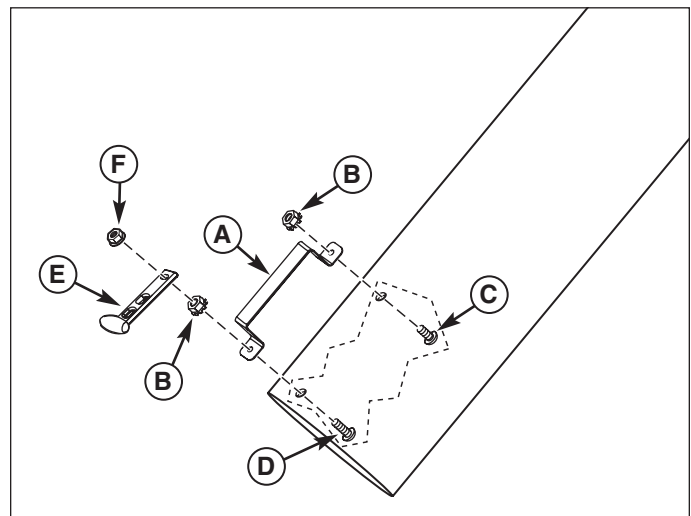

Figure 6. Handle to Tube Installation
1. Install handle (A, Figure 6) using 1/4-20 x 1/2 screw and 1/4-20 locknut (B) for rear hole. Use 1/4-20 x 1 screw (D) as shown. Tighten hardware.
2. Install strap (E) to screw (D) securing with 1/4-20 locknut (F).